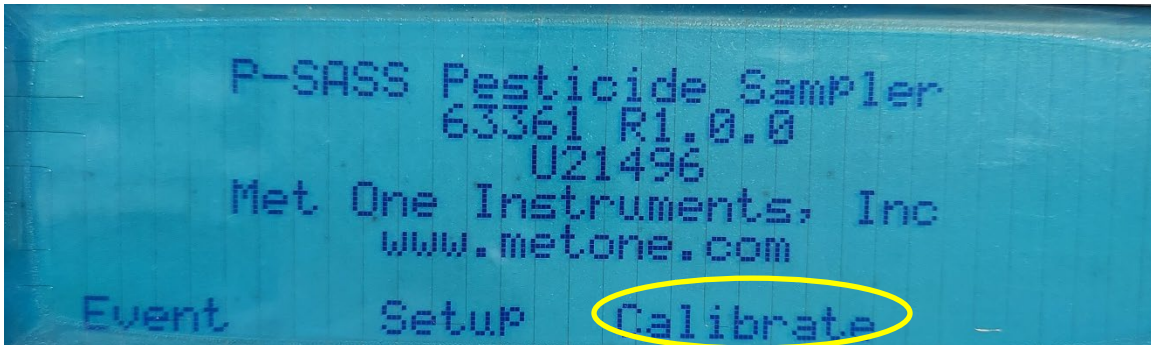

Figure 20: Main menu
**3.4.1** From the main startup display, press "Calibrate" (Figure 20).